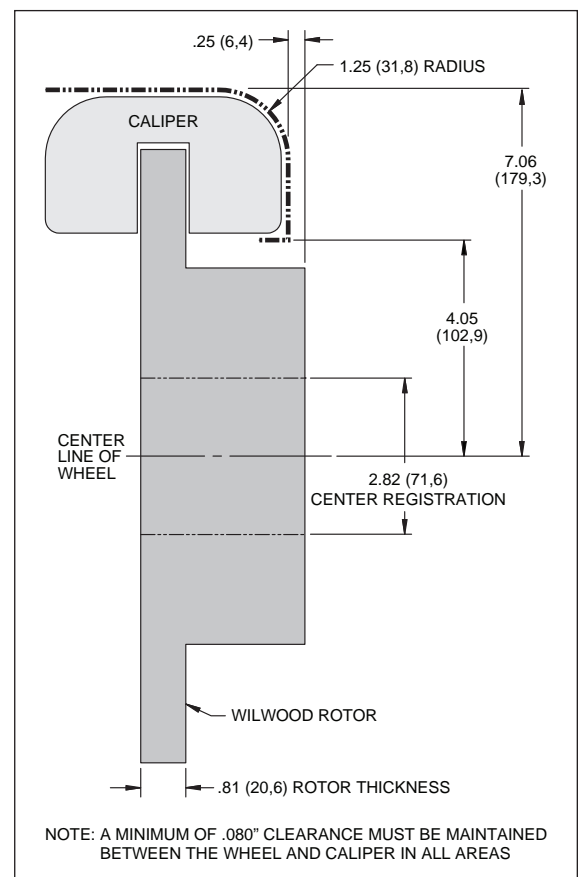

Figure 2. Wheel Clearance Diagram
- Verify your wheel clearance using Figure 2.
- Axle center register diameter is 2.82", Figure 2.